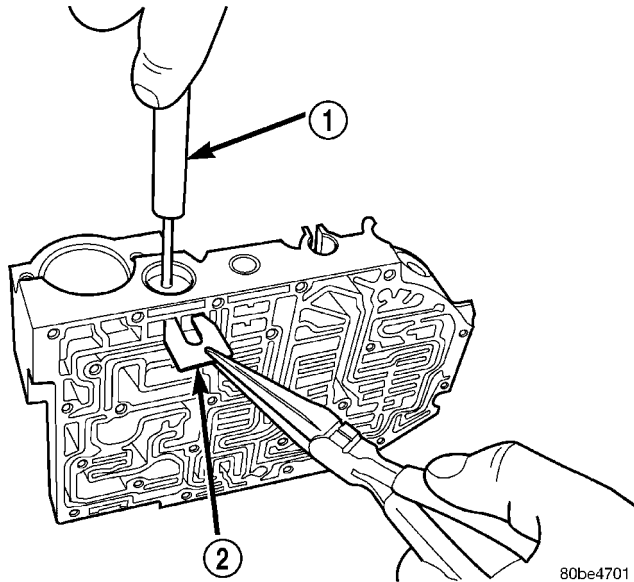

Fig. 333 Install Regulator Valve Spring Retainer using Tool 6302
(2) Install regulator valve spring retainer (Fig. 333).